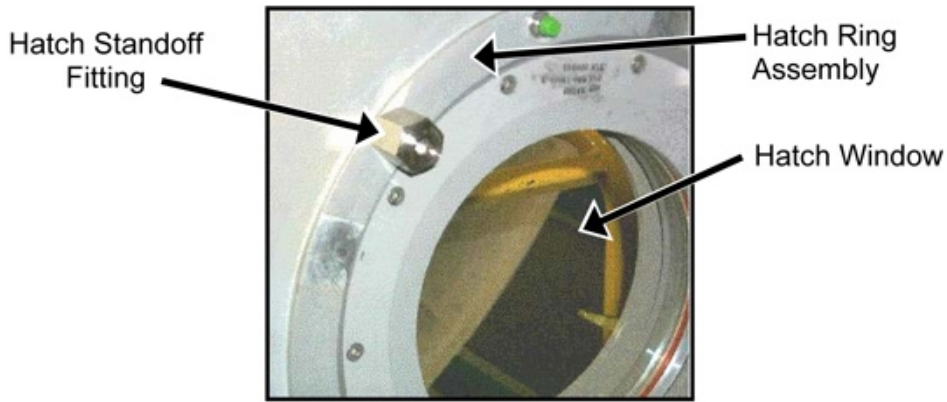

Figure 3. Hatch Standoff Fitting Installed.
- 6.3 Mount CBCS Camera Assembly to Hatch Standoff Fittings with Camera tail oriented tail pointing ISS Aft, 1/4 Turn Fasteners (four). Refer to Figures 3 and 4.